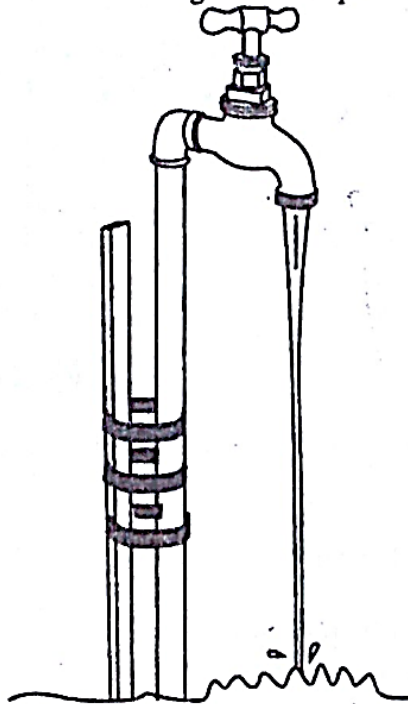

Fig. 1.2
- (ii) Fig. 1.2 shows water coming out of a tap.